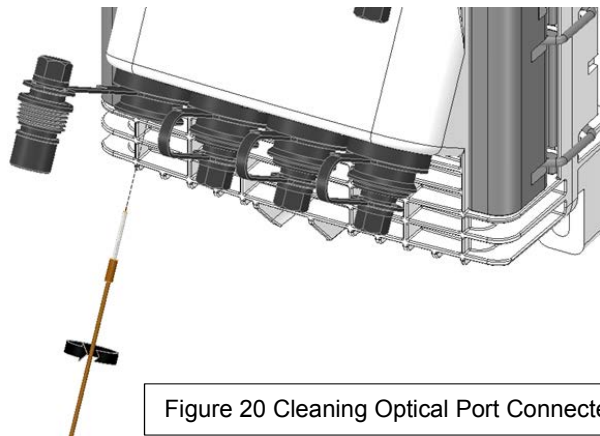

Figure 20 Cleaning Optical Port Connector and Adapter
- 11.5.3 Insert a dry swab into the adapter as shown in Figure 20.